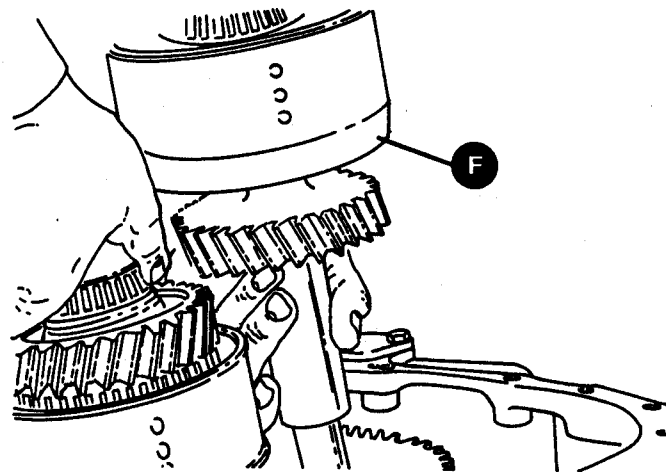

Figure 14.
16. Slightly lift the input clutch and at the same time tilt and lift out mainshaft (F, Figure 14).